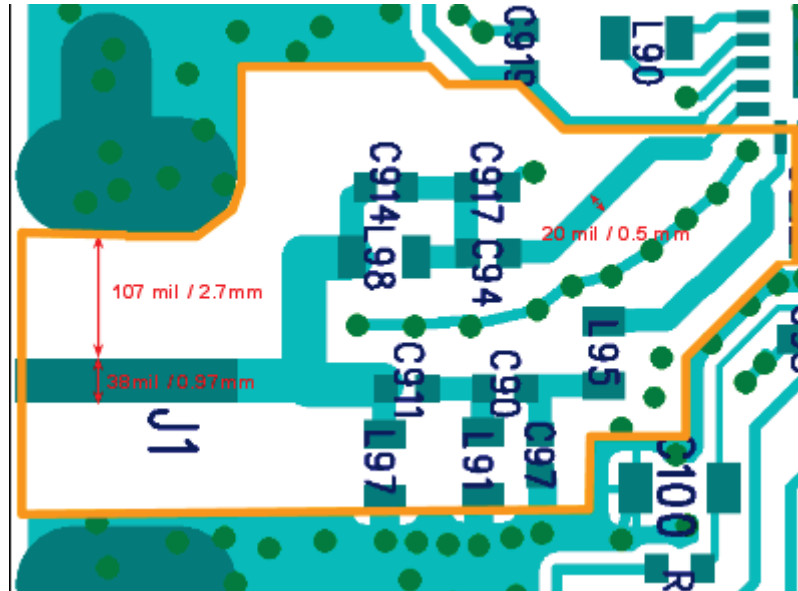

Figure 5 RF input and Diplex filter
- It is important for the layout with 75 Ω controlled impedance lines and solid ground plane under RF traces. On the example layout as Figure 5 shown, RF input pad width=38mil (0.97mm) and trace to ground gap=107mil (2.7mm) are used. The RF input width is choose to have similar size of RF connector.